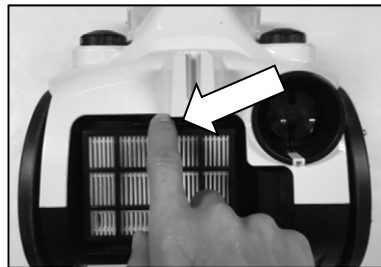

Fig 16
- b. As shown in Fig.16, get out the Exhaust filter.